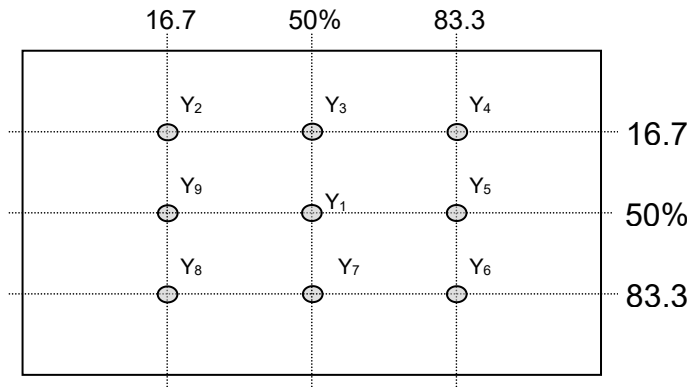

Fig. 2 Definition of points
The luminance uniformity in surface luminance is determined by measuring luminance at each test position 1 through n, and then dividing the maximum luminance of n points luminance by minimum luminance of n points luminance. For more information see FIG.2.
**Note 7: Definition of Luminance (Refer Fig. 2)**